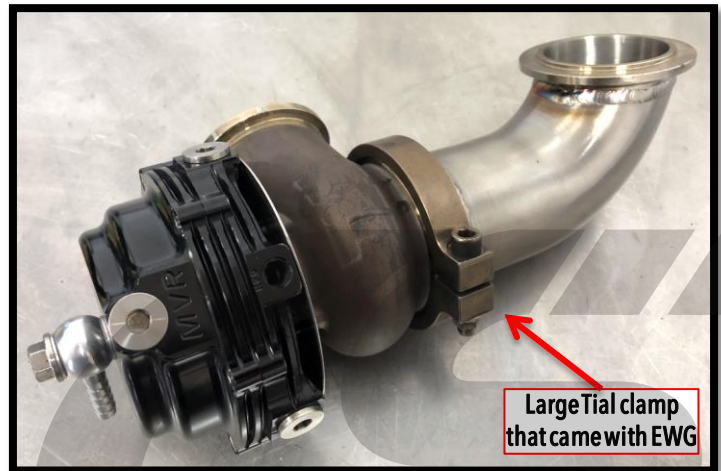

Figure 13b
- a) Install the supplied CorkSport EWG Elbow onto your EWG. Secure using the larger v-band clamp that came with your EWG. Tighten the clamp with a 3/16" Allen wrench and 8mm socket just enough so the components stay connected but are able to rotate freely. Shown in **Figure 13b**.